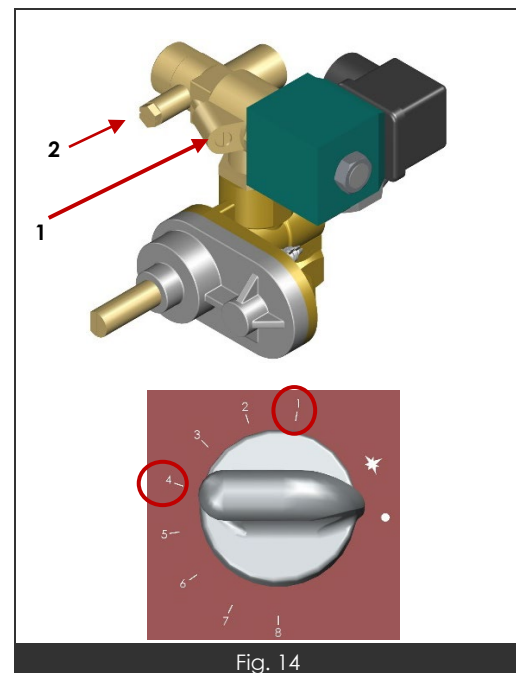

Fig. 14
- Adjust the screw (Fig.14 Item 1): tighten to decrease the low output and loosen to increase it.
- The pressure can be measured at the pressure gauge outlet (Fig. 14 Item 2).